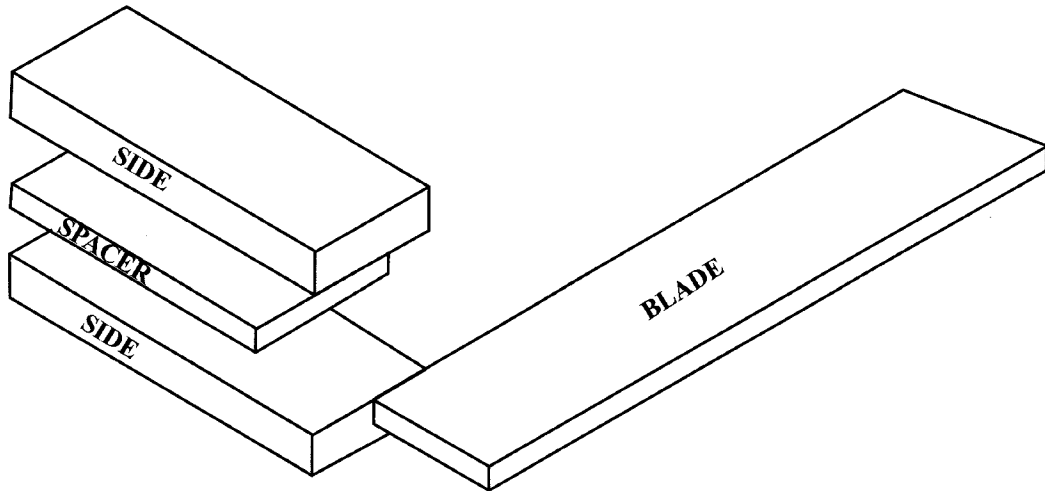

Figure 6. Material for making a try square
6. Figure 6 shows the material for making the stock and blade of a try square. The try square is to be assembled by fastening the sides to the spacer to form the stock. The stock is then fitted to the blade.